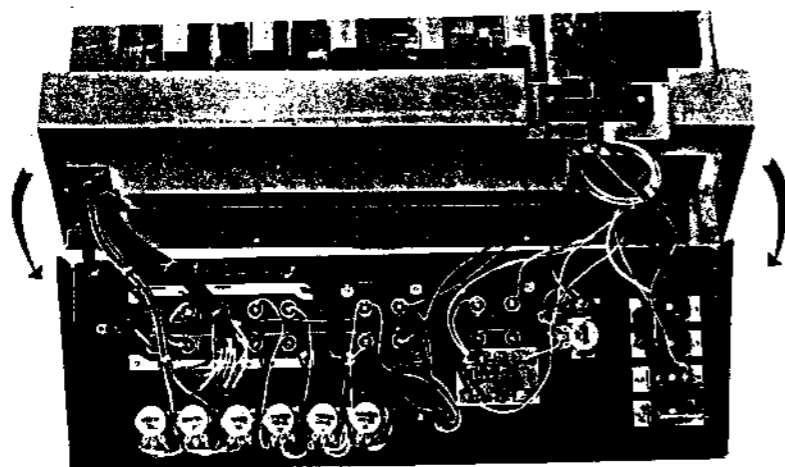

Fig. 2-5. Removal of Back-Panel Ass'y
- c. Turn the unit over and remove the four self-tapping screws (+RF3φ × 6) at the back bottom of the chassis. The Back Panel Assembly is now free, and may be tilted backward and down as shown in Fig. 2-5.